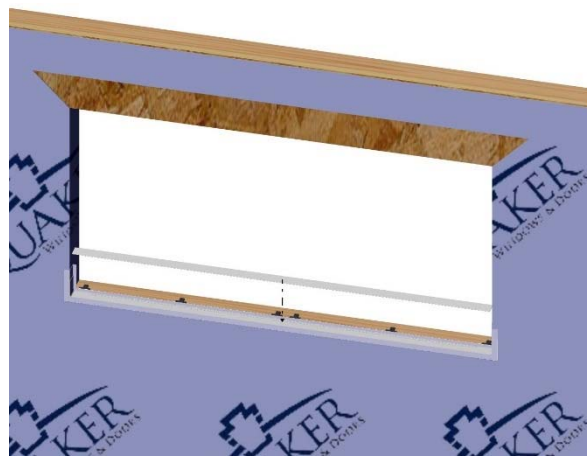

Fig. 12
- B. Install sloped section making sure the ribs on the bottom lock into the ribs on the center sections. (Fig. 12)